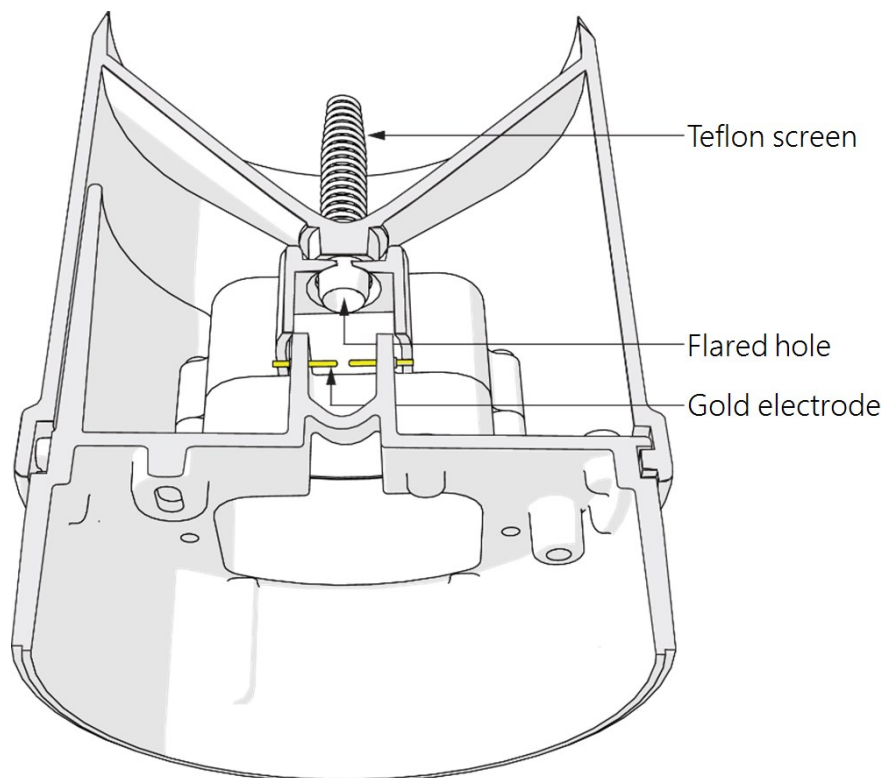

Figure 9-5. Rain gauge cutout
- c. Check the downspout for debris (Figure 9-5 (p. 35)). Use a pipe cleaner or small soft brush to clean the downspout.